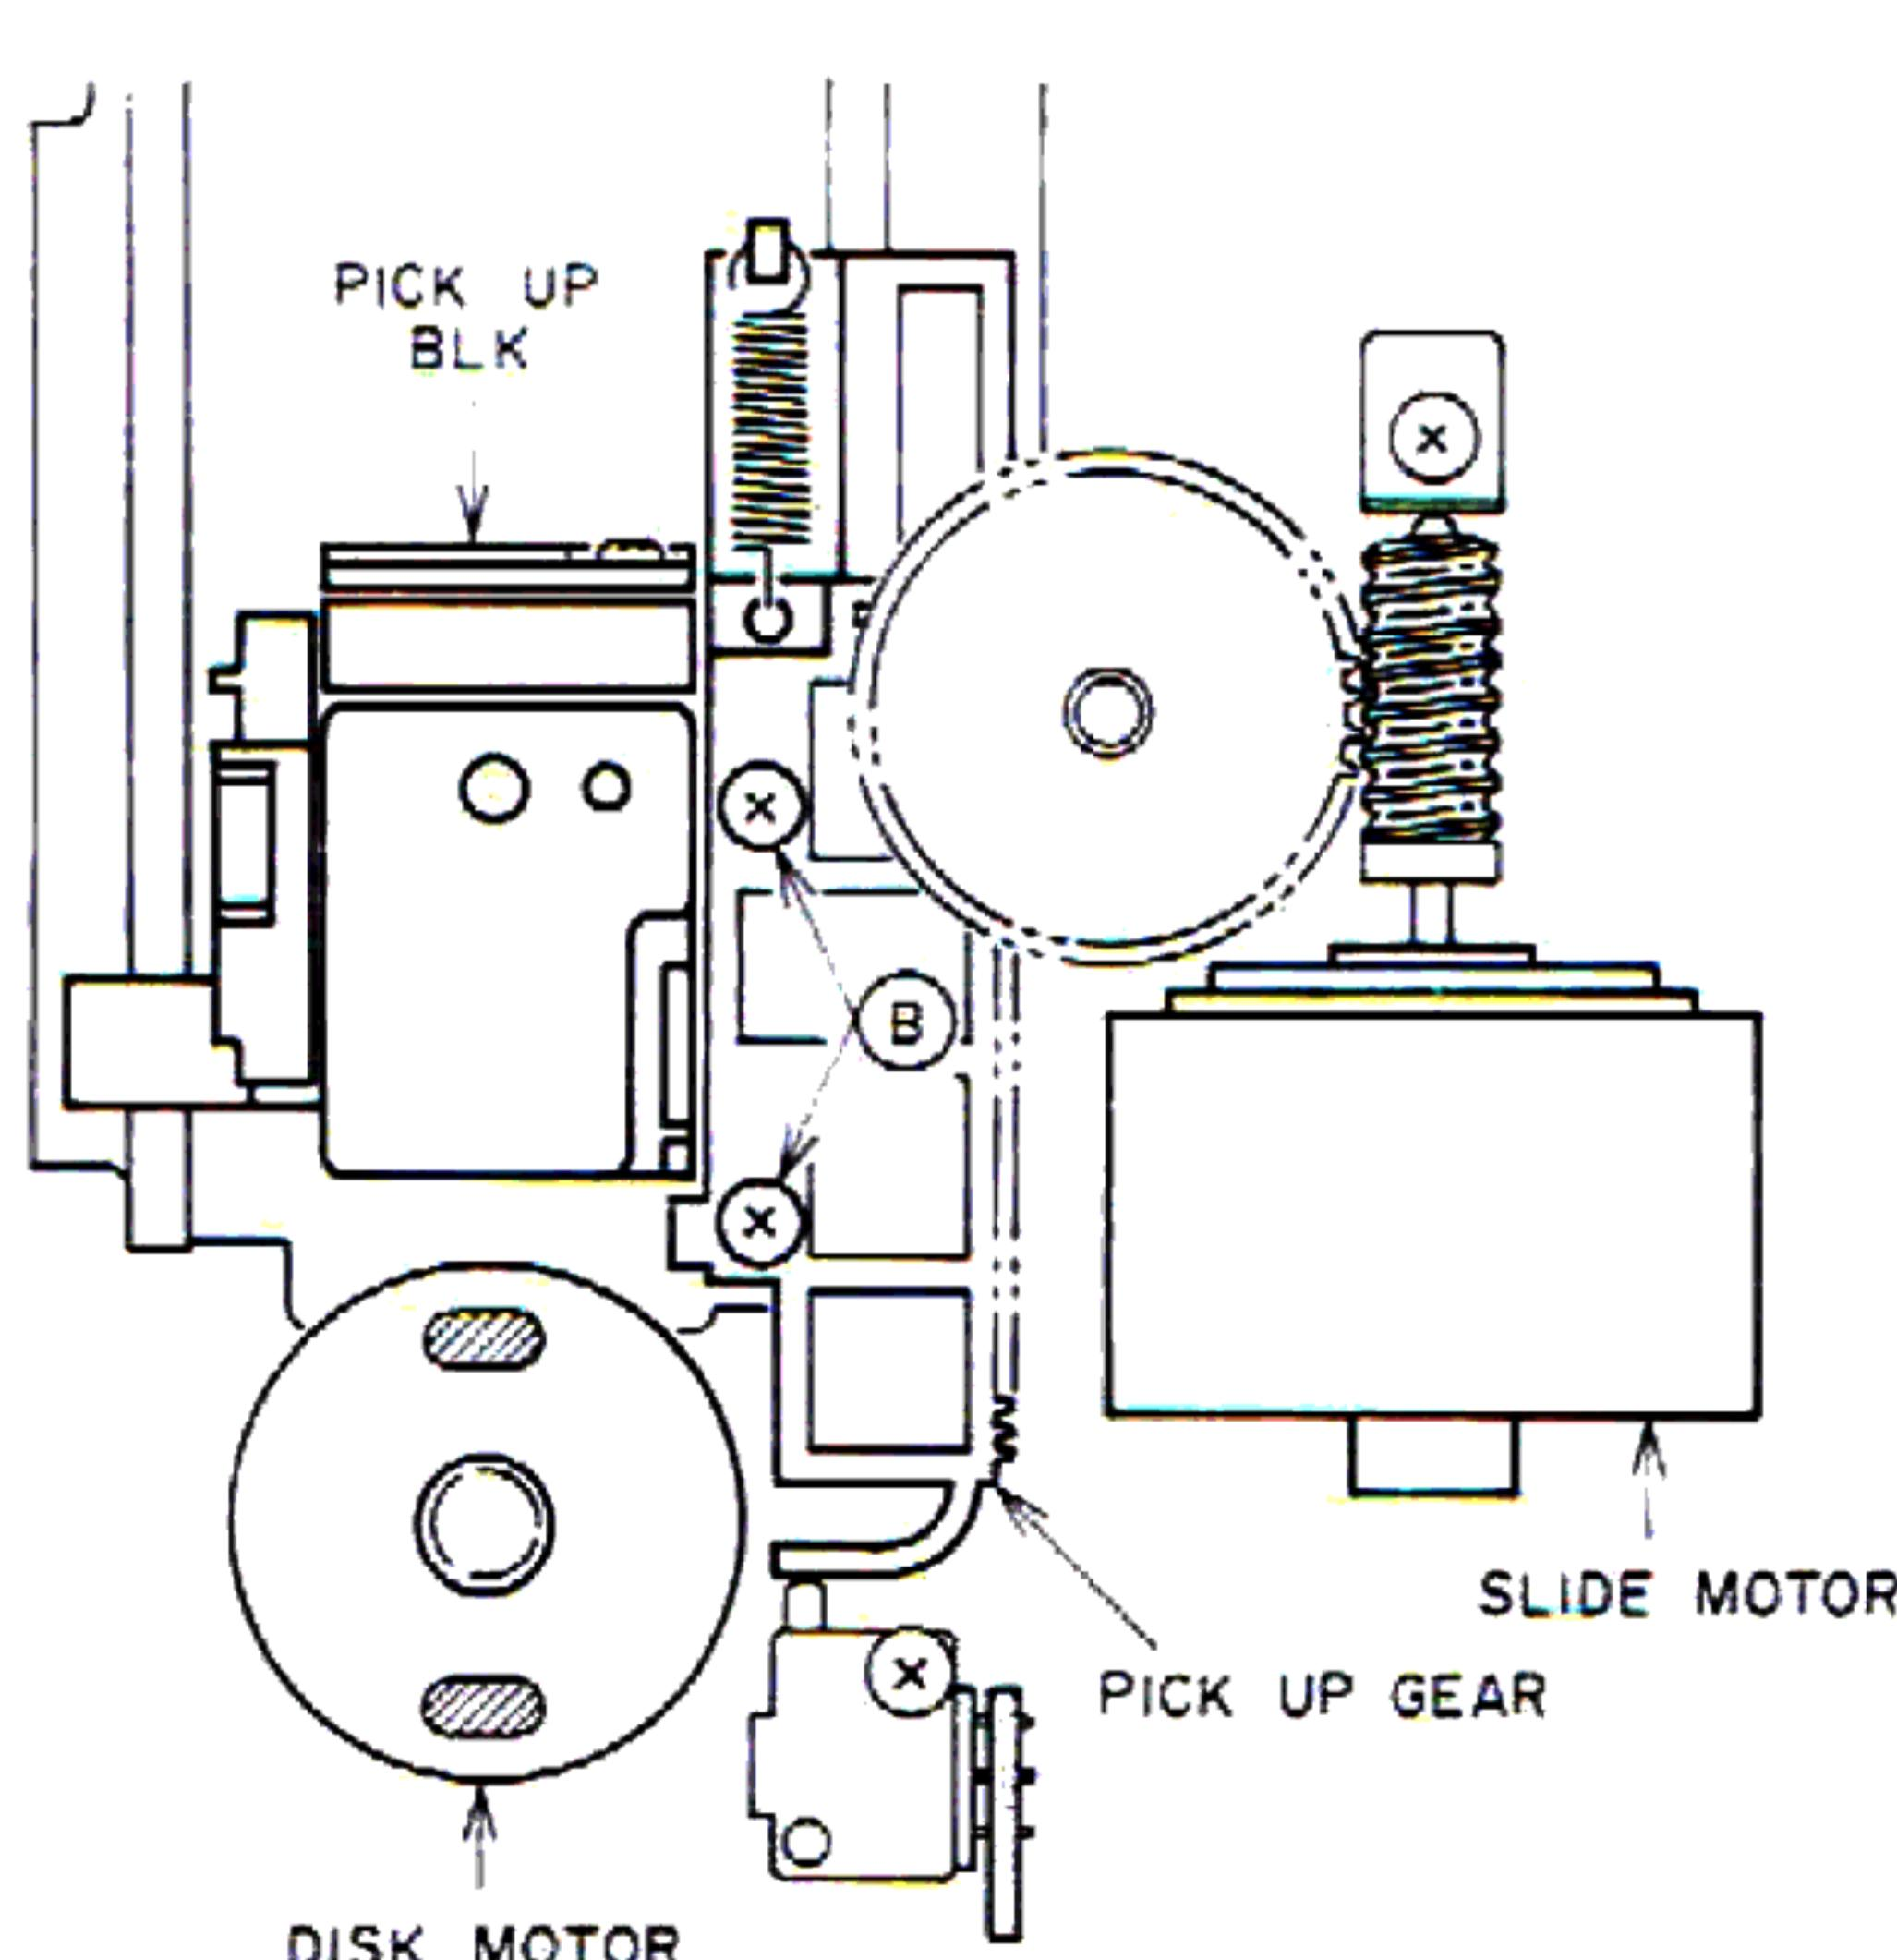

Fig. 4-3
- 4) Loosen two pick-up fixing screws **(B)**, remove the pick-up gear. (Refer to Fig. 4-3)